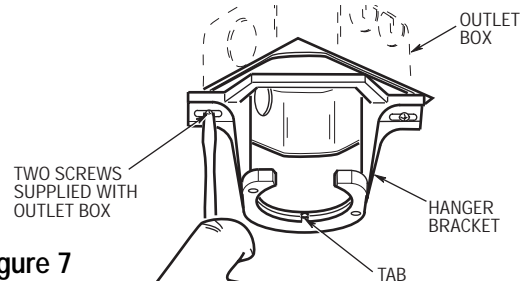
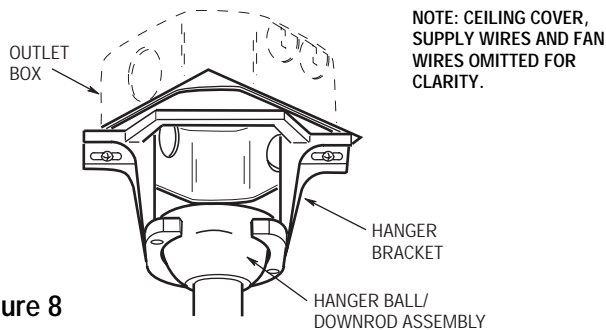

Figure 7
Figure 8
- 1. Securely attach the hanger bracket to the outlet box using the two screws supplied with the outlet box (Figure 7).
- 2. Carefully lift the fan from the foam pad and seat the hanger ball/downrod assembly on the hanger bracket that was just attached to the outlet box (Figure 8). Be sure the groove in the ball engages with the tab on the hanger bracket (Figure 7).
2. Connect the fan motor white wire to the supply white (neutral) wire using a wire connector (supplied) (Figure 7). Connect the fan motor black wire and blue wire to the supply black (hot) wire using a wire connector (supplied) (Figure 7). Your fan is now wired to be turned on and off from the fan switch. After connections have been made, turn leads upward and carefully push leads into the outlet box, with the white and green leads on one side of the outlet box and the black and blue leads on the other side of the outlet box.